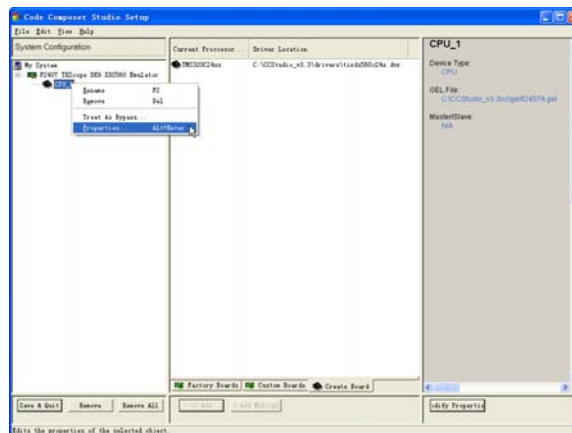

Figure 3.8 Set CPU properties
8. Users can also open the CPU properties dialog box, set according to actual needs, as show in Figure 3.8.